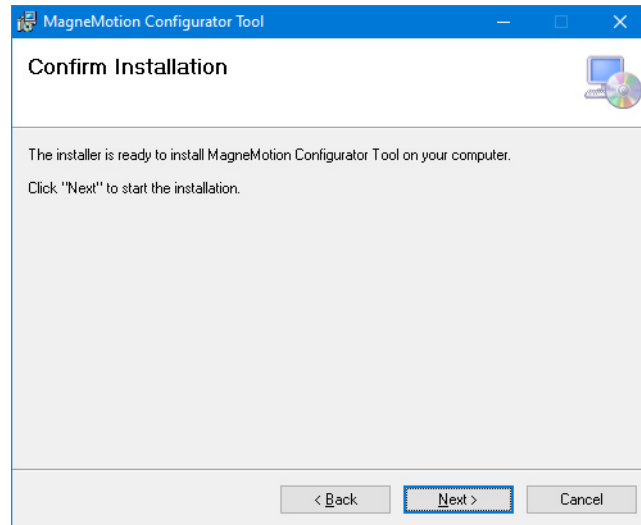

Figure 2-3: MagneMotion Configurator Tool Installation Confirmation
*The **MagneMotion Configurator Tool** setup wizard prompts for confirmation of the installation, see Figure 2-3.*